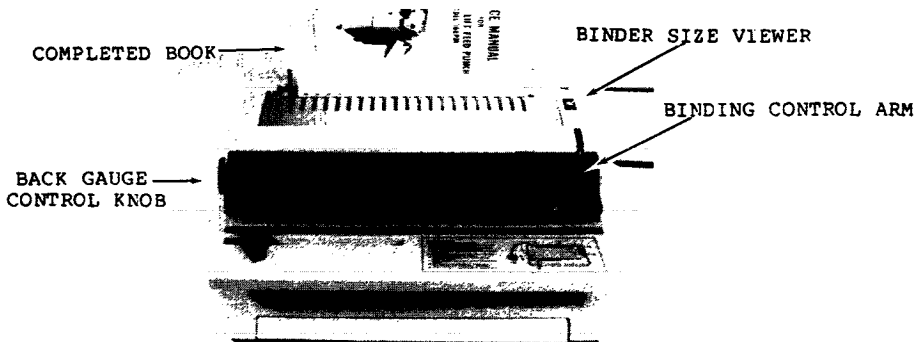

Figure 4.3
9. To determine the correct back guide setting and proper GBC binding to use, a binder size viewer (See Figure 4.3) has been provided on the top cover right hand side. The viewer is color coded to correspond with the back gauge control knob. It also has a binding size chart to assist you in selecting the proper GBC binding to use.
- a. Move the binding control arm (See Figure 4.3) upward, this will open the spreading hooks.